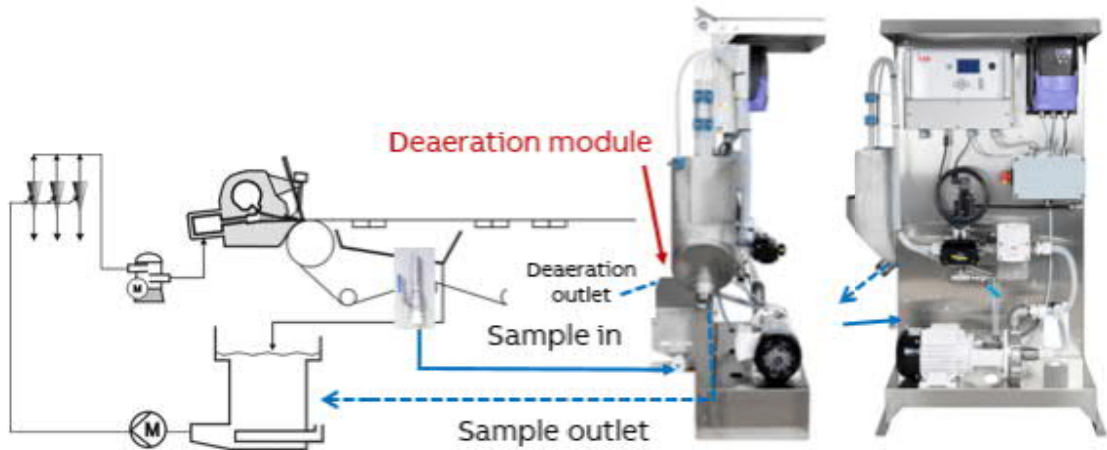

Figure 20. Installation of white water sensor with sample pump into the process.
- If sample pump is used deaeration module can be in the backside of sensor (as it is delivered, see figure 20).